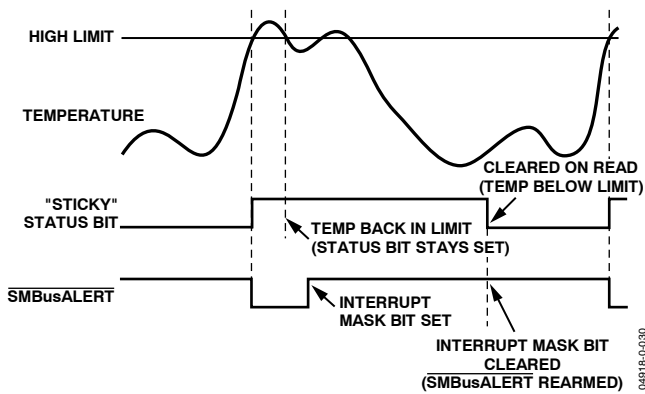

Figure 32. Handling SMBusALERT
7. Periodically poll the status register. If the interrupt status bit clears, reset the corresponding interrupt mask bit to 0. The SMBusALERT output and status bits then behave as shown in Figure 32.